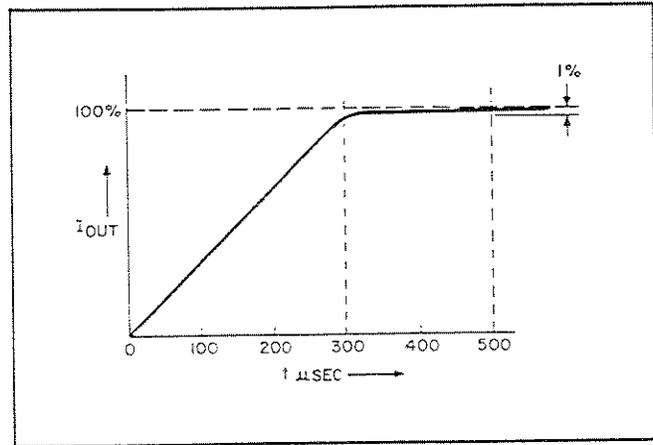

Figure 5-8. Up-Programming Speed Waveform
- The programming speed should be within the tolerances of Figure 5-8. Output should go from zero to 99 Volts (Model 6177B) or from zero to 49.5 Volts (Model 6181B). Fall time (down programming) should be almost identical to the rise time shown on Figure 5-8 except for inversion.